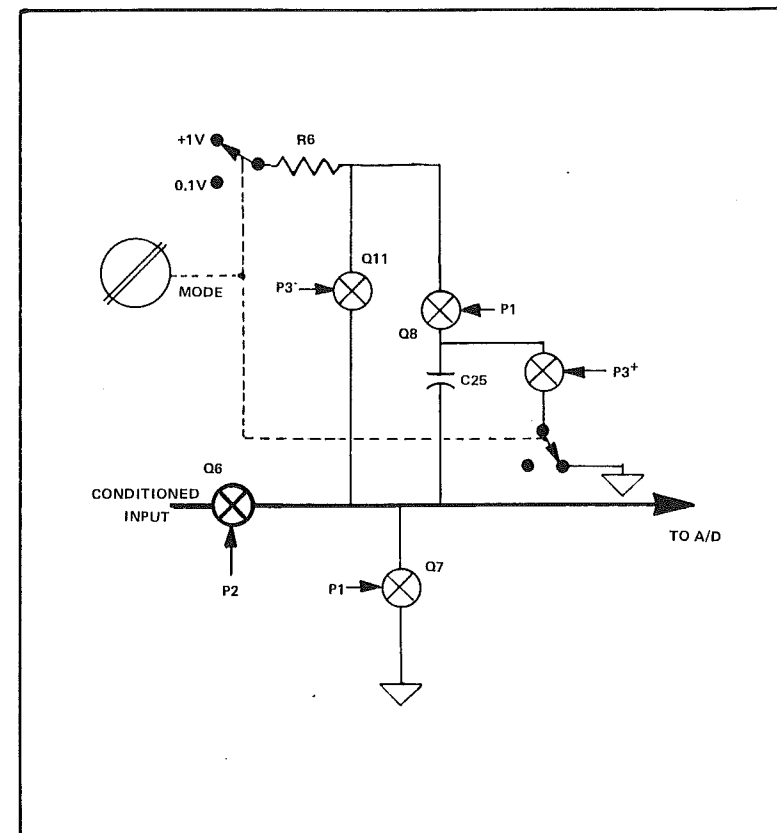

Fig. 3-5. Isopolar Reference Voltage Generation
a. Figure 3-5 is a simplified schematic of the complete circuit in the fold-out reference. The Function Switch selection applies 100mVDC when selecting DCV or DCmA, or 1VDC when selecting ACV, ACmA.